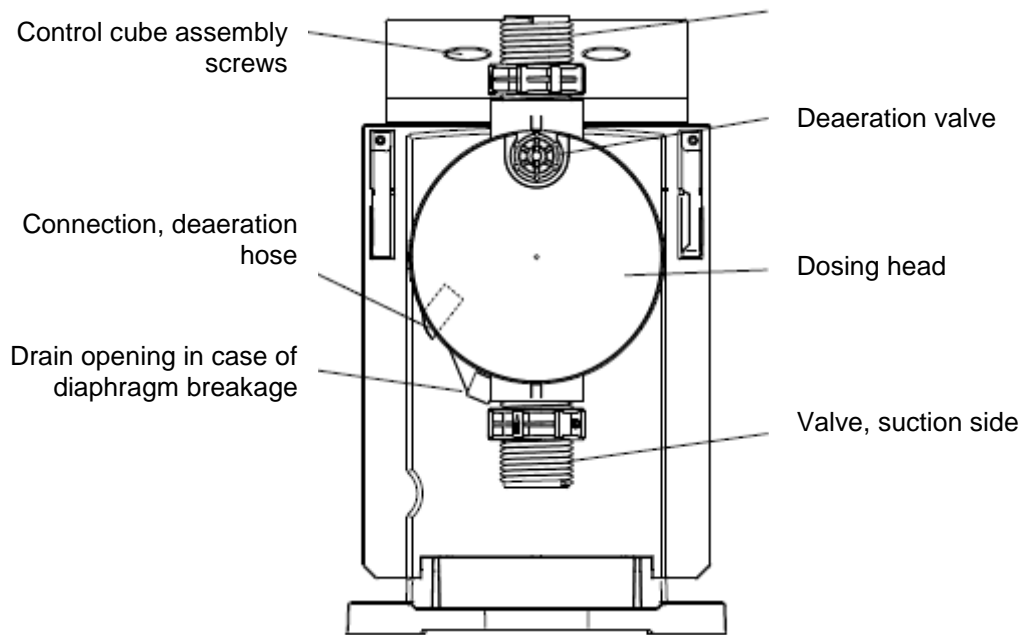

Fig. 3 Rear view of the pump
- The mounting plate can be used as a drill template, please see fig. 3 for drill hole distances.